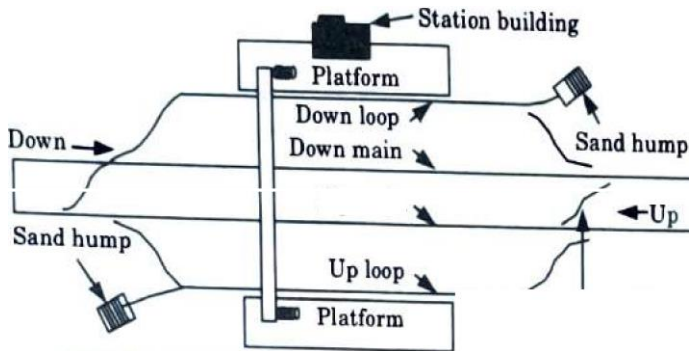

Fig. 2.28.5. Double-line crossing station with four lines.
c. Double Line Crossing Station with Four Lines : The common layout of a station yard on a double line section has four-line station as shown in Fig. 2.28.5.